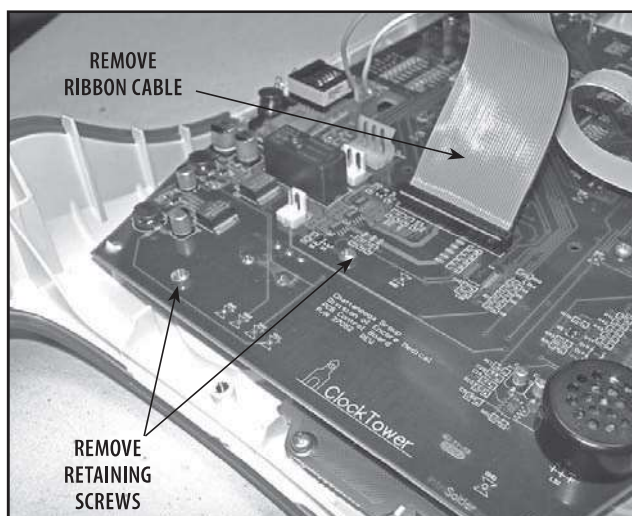

FIGURE 6.26
4. Remove the Control Board Ribbon Cable and the two Control Board Assembly Retaining Screws. See Figure 6.26.